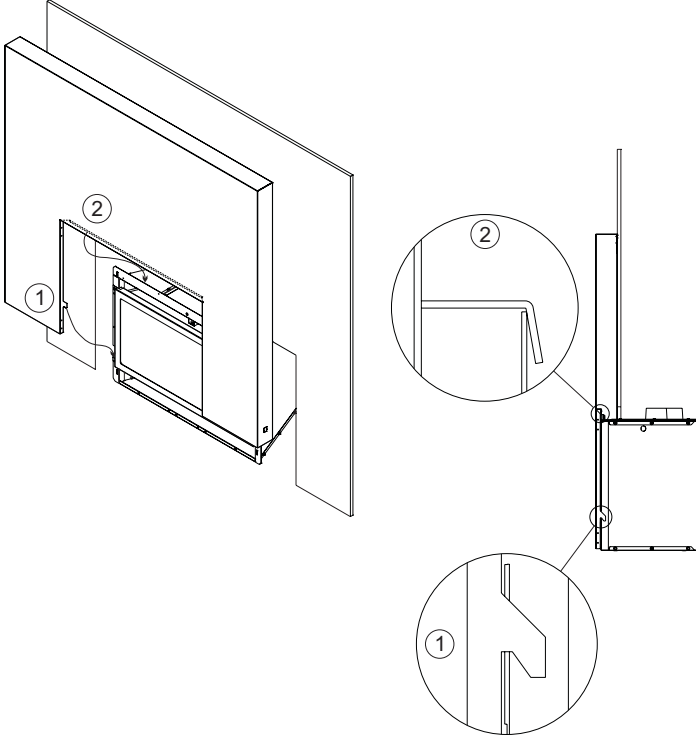

Figure 1
1. Place custom surround against wall and fireplace as shown in Figure 1.